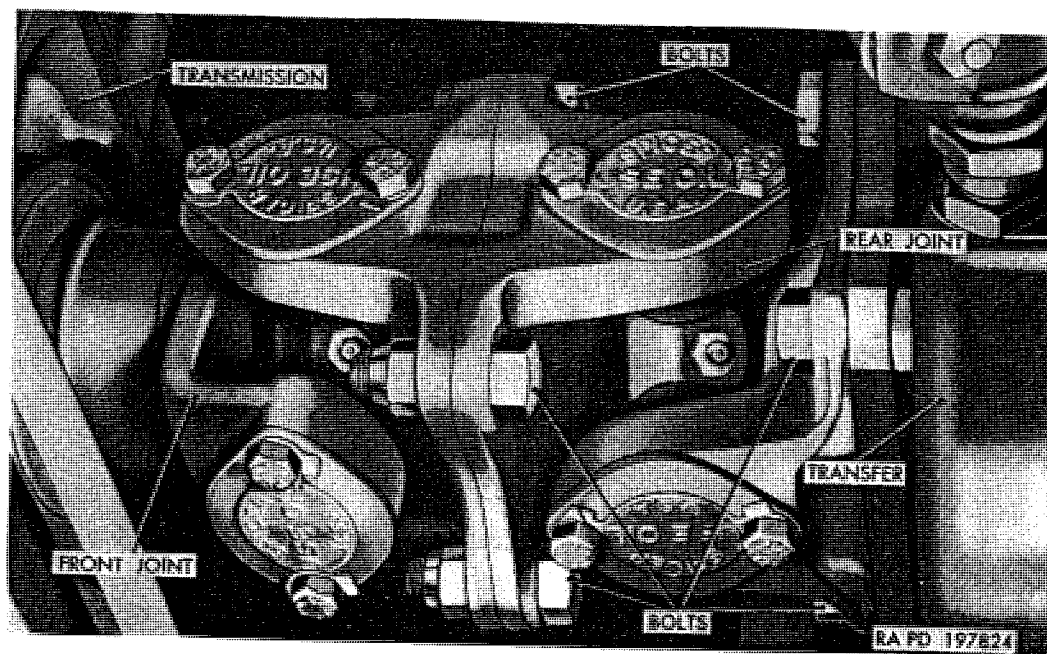

Figure 240. Transmission-to-transfer propeller shaft installed.
c. *Transmission-to-Transfer Propeller Shaft* (fig. 240). Power from transmission to transfer is through two universal joint assemblies which are bolted together, thus eliminating shaft usually used. Slip joint between transmission and transfer is through splined yoke which engages transmission output shaft.
c. *Transmission-to-Transfer Propeller Shaft Removal*. Remove four bolts and nuts attaching two universal joints (fig. 240) together; also remove four bolts and nuts attaching rear universal joint flange to transfer flange. Remove rear universal joint. Slide front universal joint toward rear and off transmission output shaft.
c. Transmission-to-Transfer Propeller Shaft Installation (fig. 240). Apply automotive and artillery grease (GAA) to sleeve yoke sleeve; then slide sleeve yoke over transmission output shaft, being careful that transmission rear seal is not damaged during installation. Move joint toward transmission to provide sufficient space to install rear universal joint. Locate rear joint between front joint and transfer flange with lubrication fittings in alignment; then install four $\frac{1}{2}$ -20 x $1\frac{3}{8}$ bolts and $\frac{1}{2}$ -20 nuts attaching two universal joints together. Install four $\frac{1}{2}$ -20 x $1\frac{3}{8}$ bolts and $\frac{1}{2}$ -20 nuts attaching rear joint to transfer flange. Tighten the eight nuts to 48 to 64 pound-feet torque.